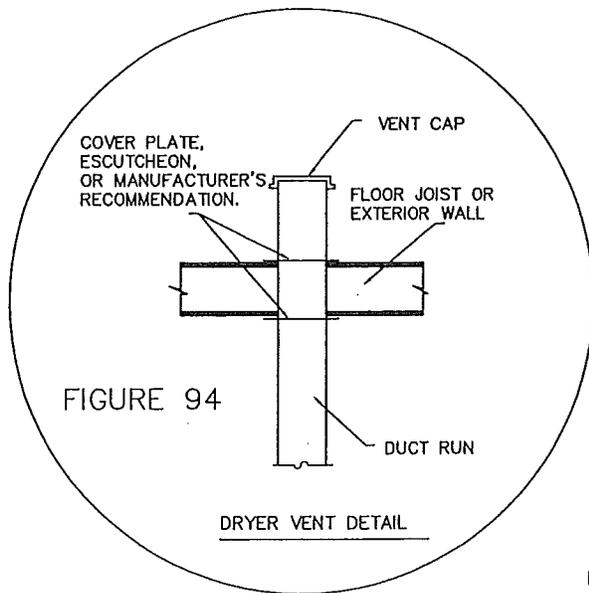

FIGURE 94
2. Access to rough in from outside may be located on the bottom side of the floor or on an exterior wall. See Figure 94.